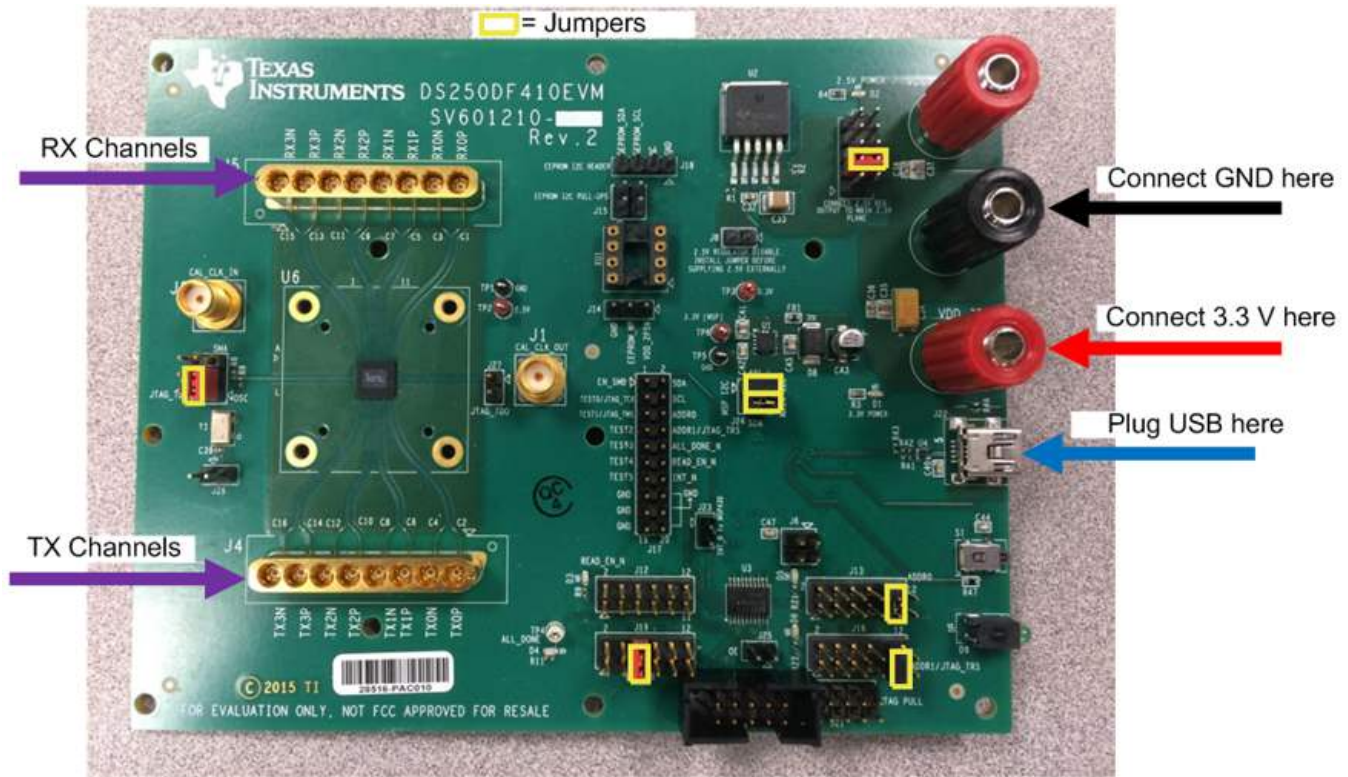

Figure 1. DS250DF410EVM, Showing Connections for Power, Signal, and USB Communications
1. Check the EVM jumper settings to ensure they match Figure 1 below.